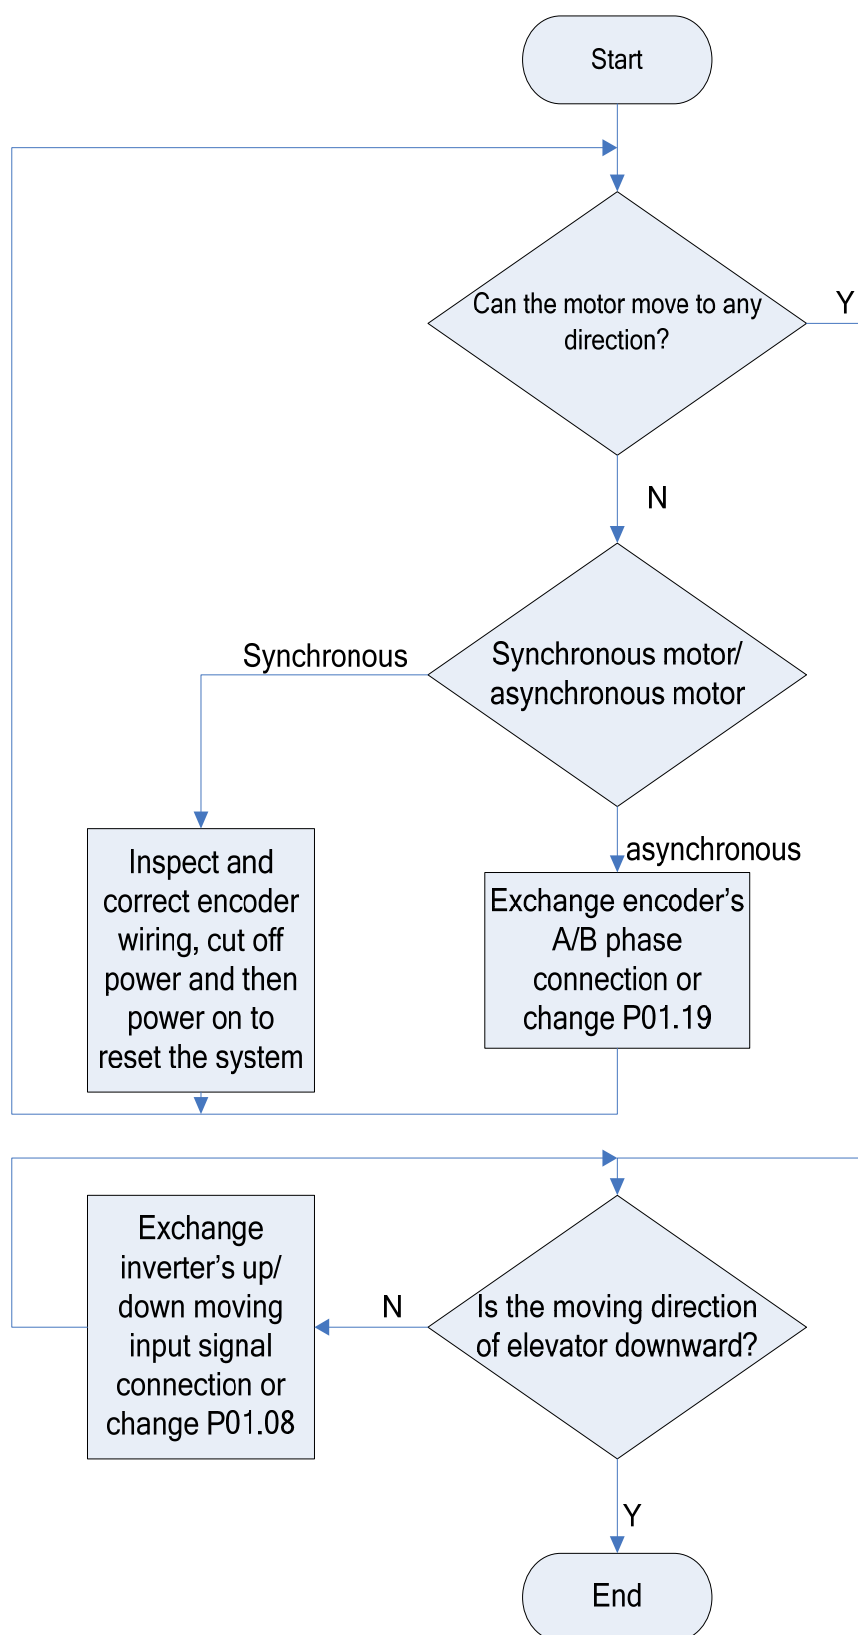

Figure 7.5 Adjustment Procedures of Downward Moving Direction
4) The adjustment procedures of downward moving direction in elevator's downward inspection operation are as the following Figure 7.5.